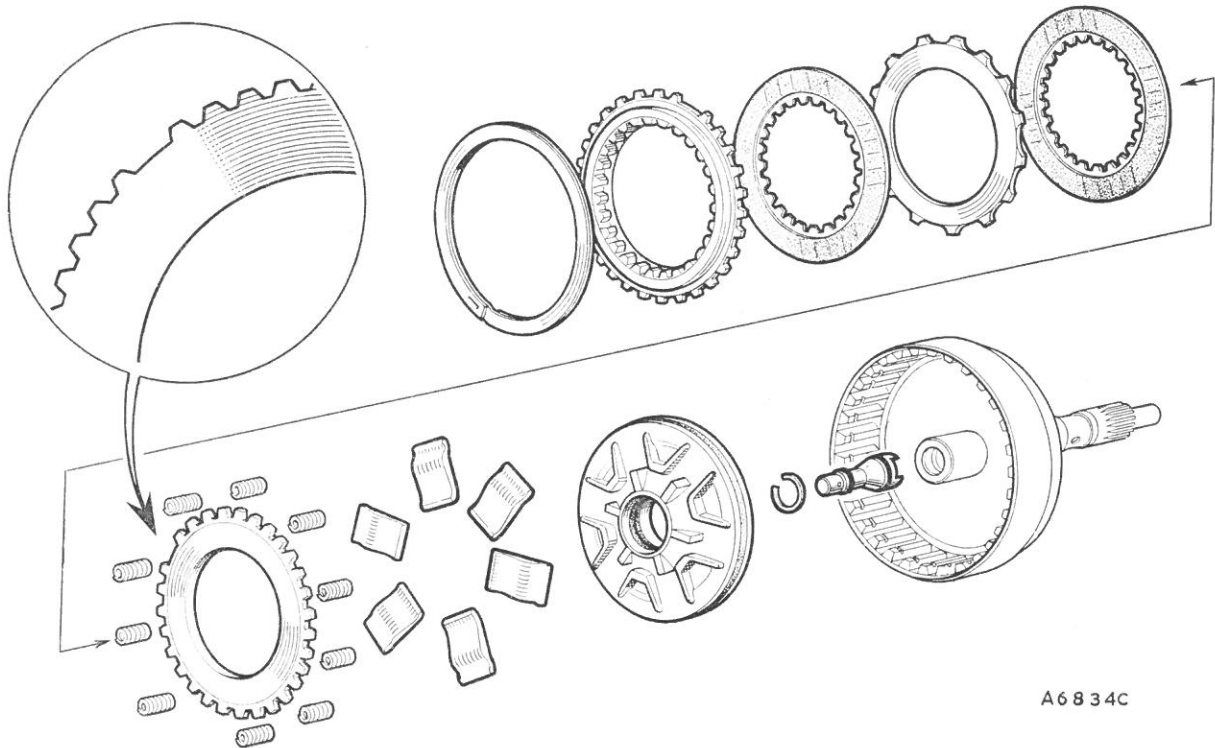

Fig. Fa.32
- (10) Refit the clutch plates and the retainer plate (see Fig. Fa.32).
- (11) Refit the circlip.